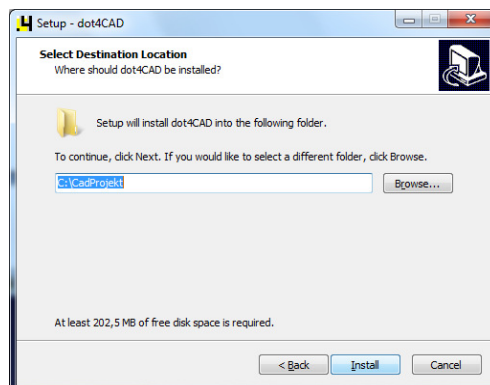

Fig. 40 – selection of the destination location for IntelliCAD
- In the next window (Fig. 40) you can select the location on the computer disk, where the environment is to be installed – by default it is the **dot4CAD** subfolder created in the main folder of CAD Projekt's programs, this is **C:\CadProjekt**;